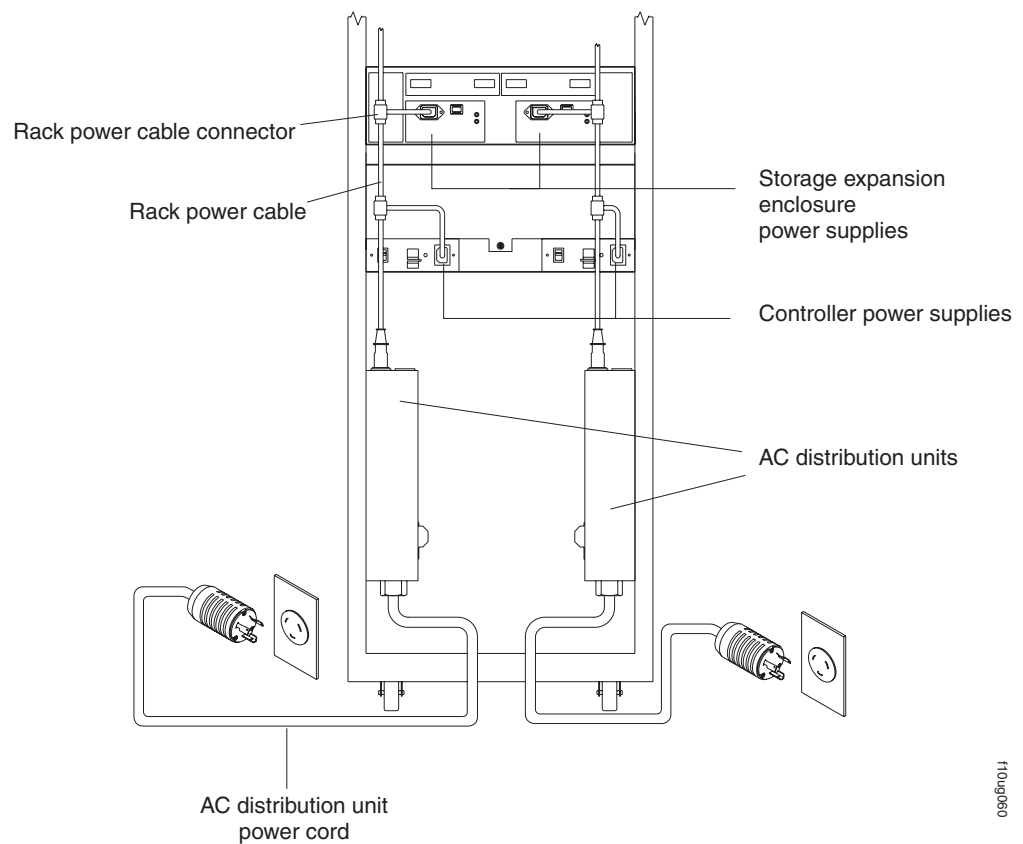

Figure 71. Redundant AC power connections to controllers and storage expansion enclosures
See Figure 71 for an example of redundant power cabling.
- To maintain power redundancy, plug the storage subsystem's right and left RAID controller units into two independent external power circuits through ac distribution units inside a rack cabinet or directly into external receptacles. Similarly, the right and left power supplies of the DS4000 storage expansion enclosures attached to the DS4800 should be plugged into the same two independent external power circuits as the DS4800. This ensures that the DS4800 and all its attached storage expansion enclosures will have power if only one power circuit is available. In addition, having all the right or all the left power cables plug into the same power circuit will enable the components in the storage subsystem to power on simultaneously during an unattended restoration of power. See Figure 71 on page 99 for an example of redundant power connections.